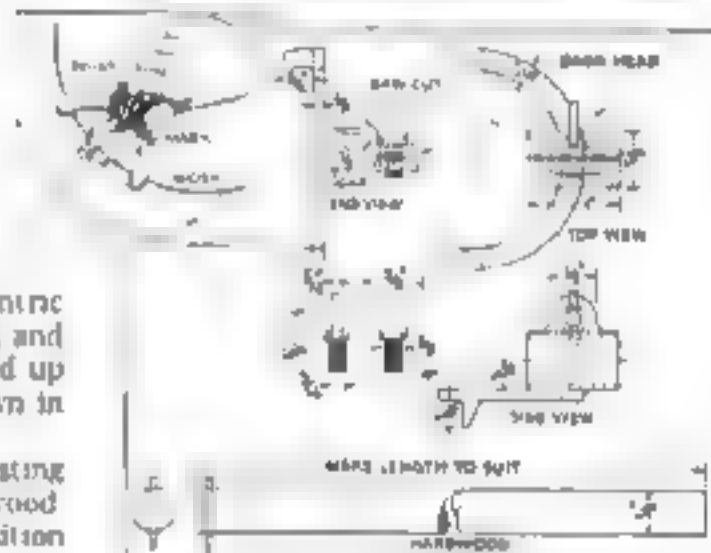

Fig. 3 An adjustable gage for scribing circular work
**W**HERE production in either the machine shop or the pattern shop requires numerous concentric circles to be laid out on disks, flanges, and similar parts, the work can be speeded up if a circle-scribing gage like that shown in Fig. 3 is used.